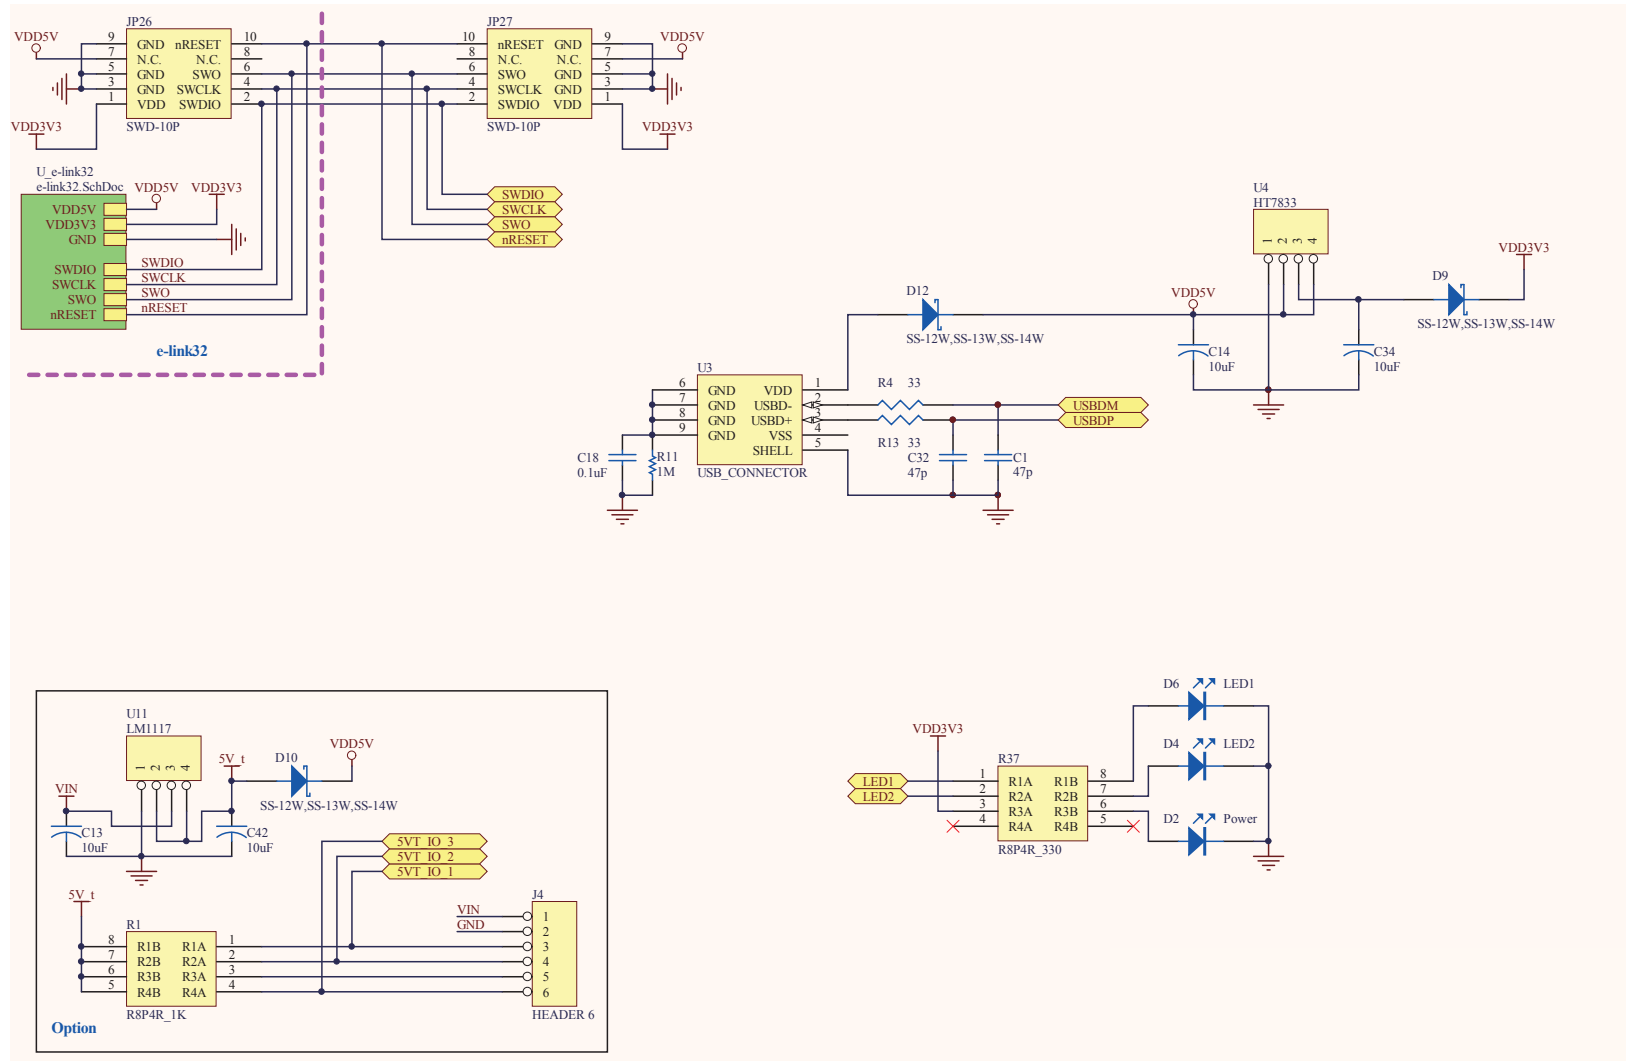

Figure 10. SWD Connector, LED Display and the Power
- Figure 10 Includes SWD Connector, LED Display and the Power.